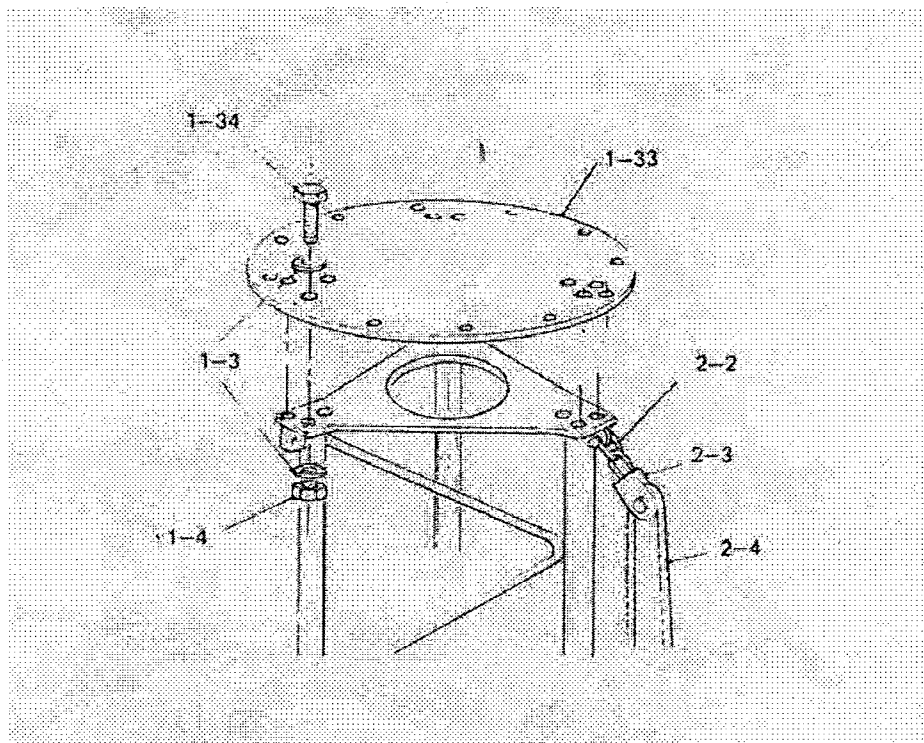

FIGURE 13 – Installing the Mast Headcap
- Step 22 - After the last mast section had been bolted down, the hauling rope (2-4), single sheave pulley block (2-3), and D shackle (2-2) which are attached to the derrick, are to be transferred from the derrick to the mast, as shown in Fig. 13. They should then be used to lower the derrick to the ground and to lift the mast headcap (1-33) to the top of the mast.
- Step 23 - Fit the mast headcap to the top of the mast with bolts (1-34) washers (1-3) and nuts (1-4), as shown in Fig. 13. It is indented with the word "TOP" - ensure this is uppermost. Headcaps available to suit various lamp styles
- Step 4 After all main antenna wires have been fixed, uncouple the single sheave pulley block from the mast (see Fig. 13) and lower to the ground